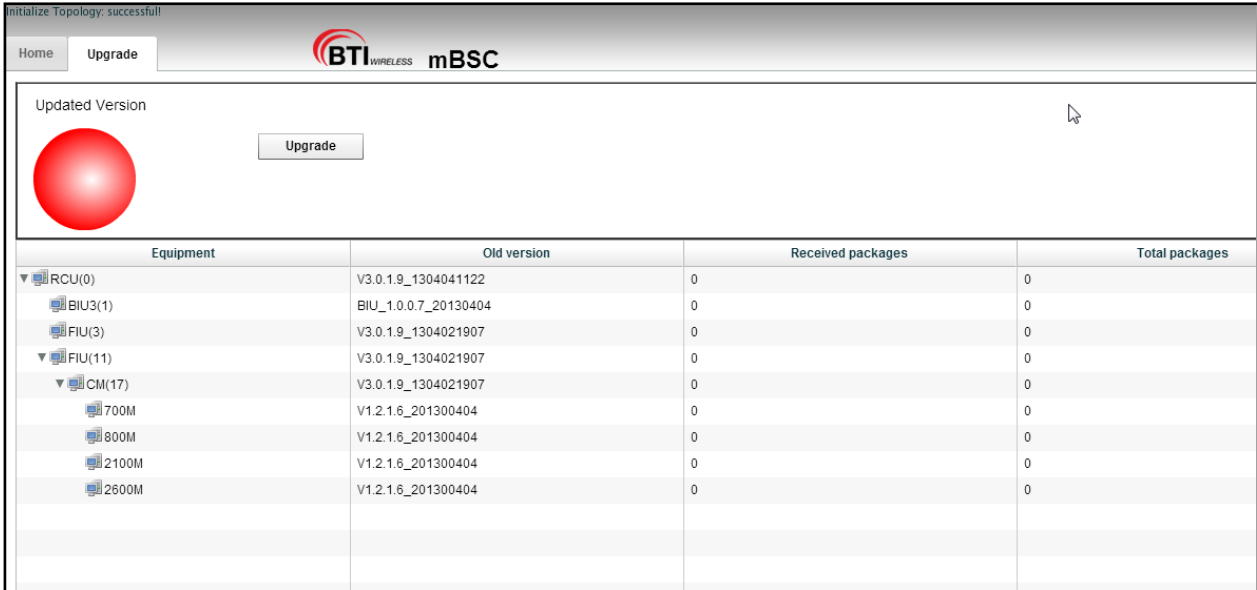

Figure 52 - Component Upgrade
- a. In the topology window the Downlink Output power is displayed next to the specific RU (e.g. 30.7 dBm indicated in the topology diagram by the 800MHz RU in Figure 52 – Up/Down Link Verification)
1. Click on the RU for the desired frequency band. The component window ;will pop up as shown in Figure 52 – Up/Down Link Verification